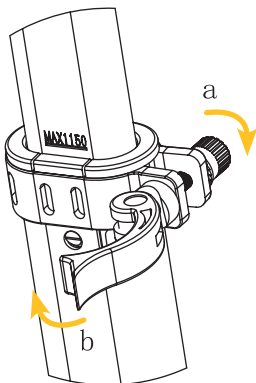

Figure 3
- Lift the upright tube according to the required scale value on the upright tube as shown in Figure 3 (MAX 1150), and tighten it in the direction of arrow a in Figure 3, and press the handles toward the upright tube in the direction of arrow b;